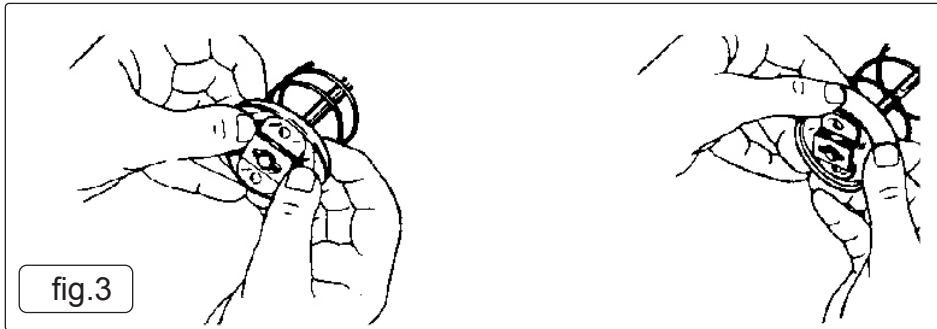

fig.3
- 5.1.9. Un-thread the barrel cap from barrel assembly and pull out the follower and spring from barrel. Hold Follower between thumb and fore finger to flip the follower lip from rear to the front side. (see fig.3).